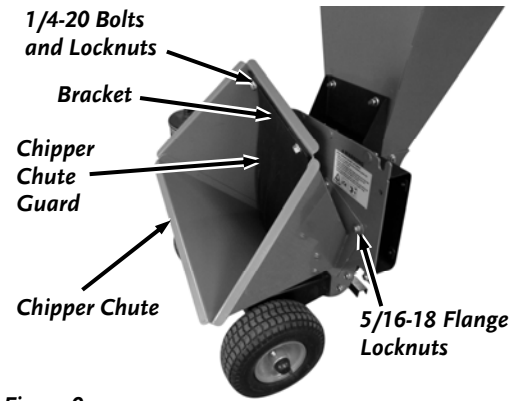

Figure 9
1. Attach the Chipper Chute onto the Housing Studs with three 5/16-18 Flange Locknuts using a 1/2" Wrench (**Figure 9**).
2. Using a 7/16" and 3/8" wrench, remove a Locknut from one of the Chipper Chute Guard Bolts, position it in the Chipper Chute, and loosely reinstall the Locknut (**Figure 9**). Repeat for the second Locknut. Fully tighten both Locknuts.